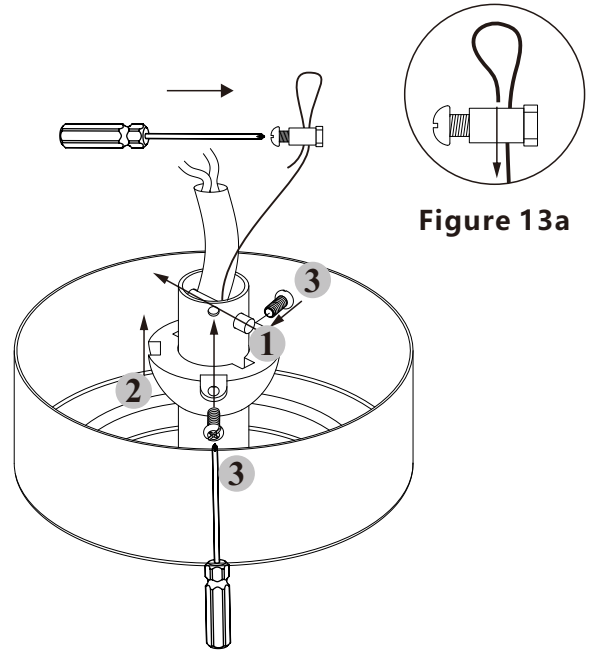

Figure 13
1. Install the hanger ball back to downrod using the reverse steps from (Step 3) (Fig.13)
2. Reinstall the safety cable coupler onto the safety cable using the reverse steps from (Step 4) (Fig.13 a)